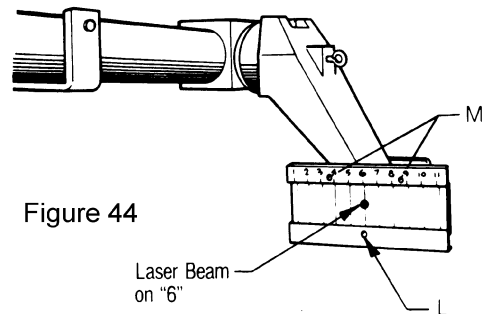

Figure 44
- 3) Level the Toe Gauge and project the laser beam image on the rear Retro-screen. (See Figure 44) The center of the beam image must be on 6 and **midway up** the mirror. If not, alternately loosen and tighten Allen set screws on the laser diode retainer.
If not, adjust the two screws (M) (See Fig. 44) until the image is on 5 and adjust screw (L) until the image is mid-way up on the Thrust Angle Scale.